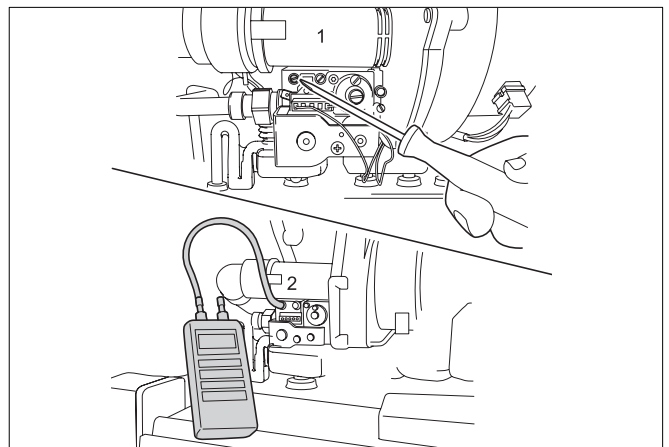

Fig. 28 Measuring the inlet gas pressure
- Close the gas shut-off valve. Loosen the screw plug on the inlet gas pressure testing nipple by two turns (fig. 28, pos. 1).
- Connect the pressure gauge connection hose to the testing nipple (fig. 28, pos. 2).